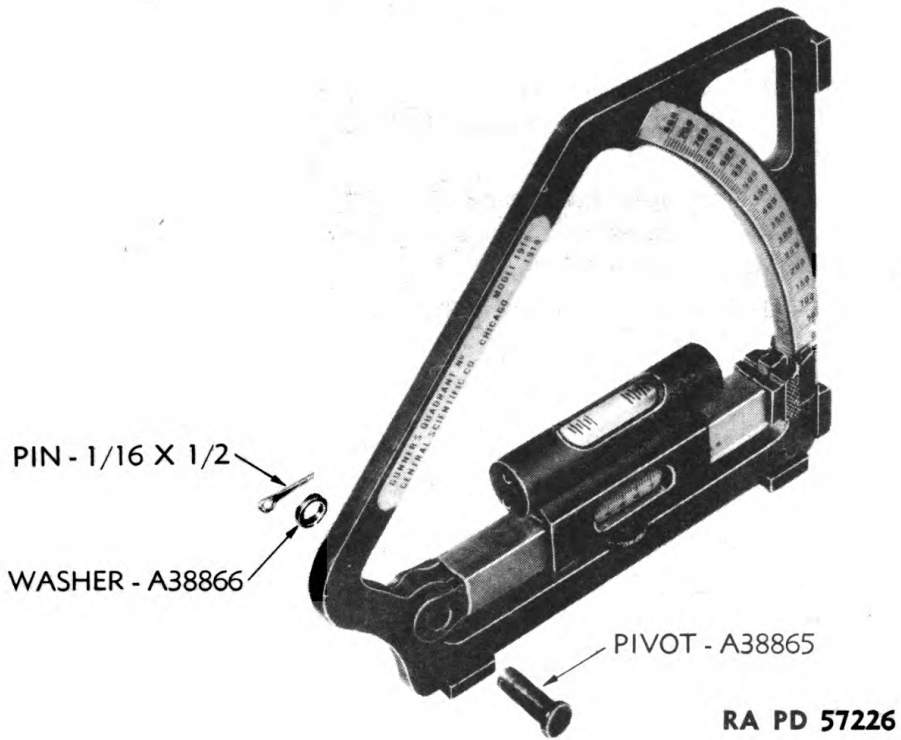
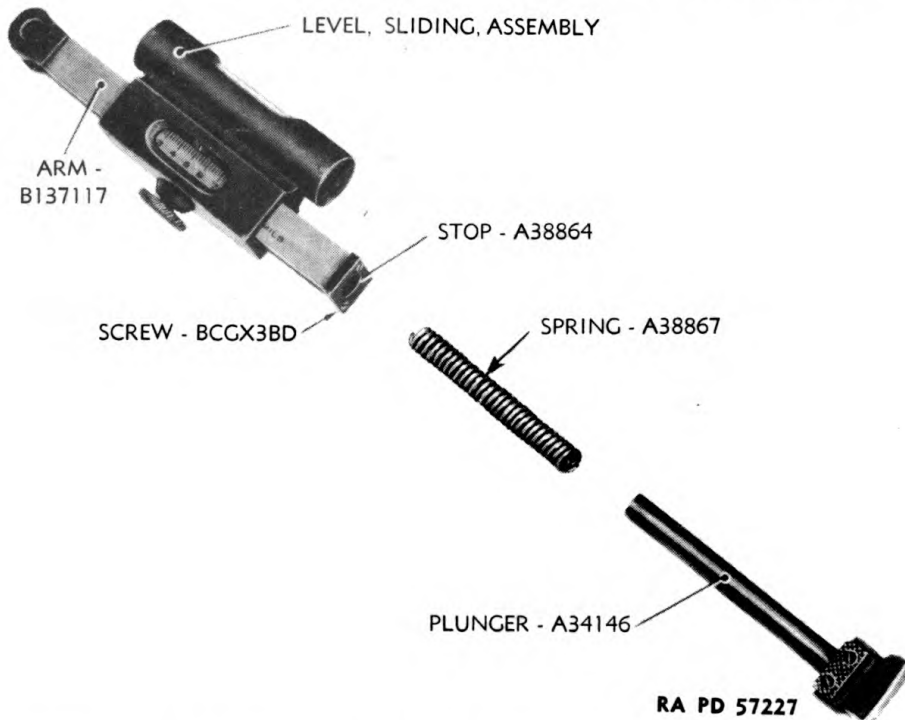

Figure 14—Gunner's Quadrant M1918—Pivot Removed
Figure 15—Gunner's Quadrant M1918—Plunger and Plunger Spring Removed
(1) Screw level vial tube plug in until pinhole in plug is in line with the holes in the level holder.
(2) Drive pin through level holder and level vial tube plug, and secure.
a. Remove Arm (fig. 14).
(1) Remove the cotter pin from the pivot on the right or rear side of the instrument, and remove brass washer.
(2) Drive the pivot from the arm and frame assembly.
(3) Set the arm at zero reading on the elevation scale, raise the pivot hole end of arm out of position, and lift out arm and plunger as an assembly.
b. Remove Plunger (fig. 15). Lift plunger out of arm, and allow plunger spring to drop out. **NOTE:** On some plunger assemblies, the plunger plates on the end are secured with screws and can be removed, while other plungers are manufactured in one piece.
(2) Insert level spring, with rivet head down, over clamping screw-head.
(3) Holding level spring in position, push arm through level guide.
(4) Place sliding level stop on end of arm, and secure with two screws.
d. Install Plunger in Arm (fig. 15).
(1) Drop plunger spring into arm.
(2) Coat plunger stem with a thin film of OIL, lubricating, for aircraft instruments and machine guns, and place plunger stem into arm.
e. Install Arm (fig. 14).
(1) Turn plunger in arm so that the beveled plunger plate edges face upward.
(2) With plunger, compress plunger spring and arm near zero on elevation scale. Push arm into position over frame. Do not release plunger until pivot holes in arm line up with pivot hole in frame.
(3) Apply one or two drops of OIL, lubricating, for aircraft instruments and machine guns, to pivot, and drive pivot through holes from the back of the instrument.
(4) Place brass washer over pivot in front of instrument, and secure pivot with cotter pin.